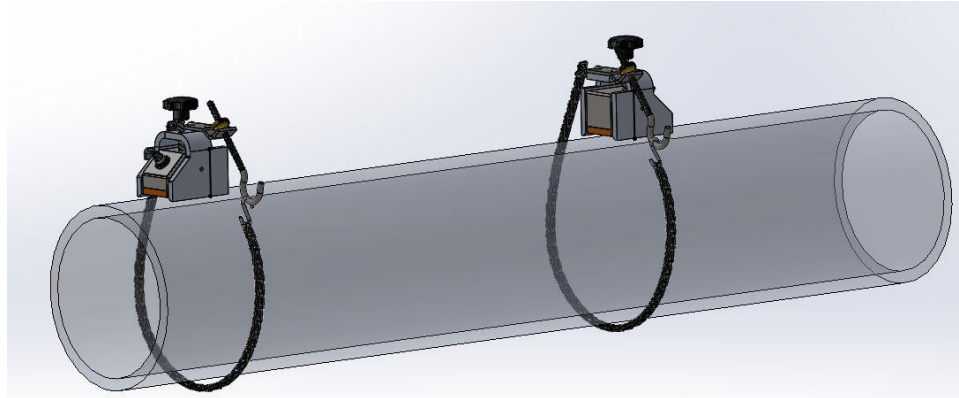

Figure 2-4. Large Mounting Clamps
3. String the mounting chains from the front adjustable hook to the rear attachment hook for both mounting clamps as shown in Figure 2-4. Start with a loose fit.